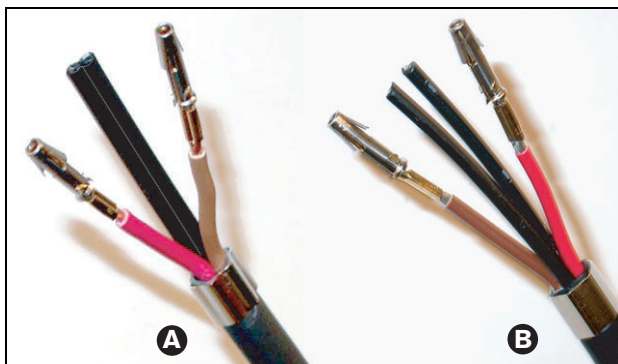

figure 29.15: Installed socket contacts
- 12 Repeat steps 10 and 11 for the other stripped, copper wire. See figure 29.15 for the result of this part of the cable-connector installation procedure.